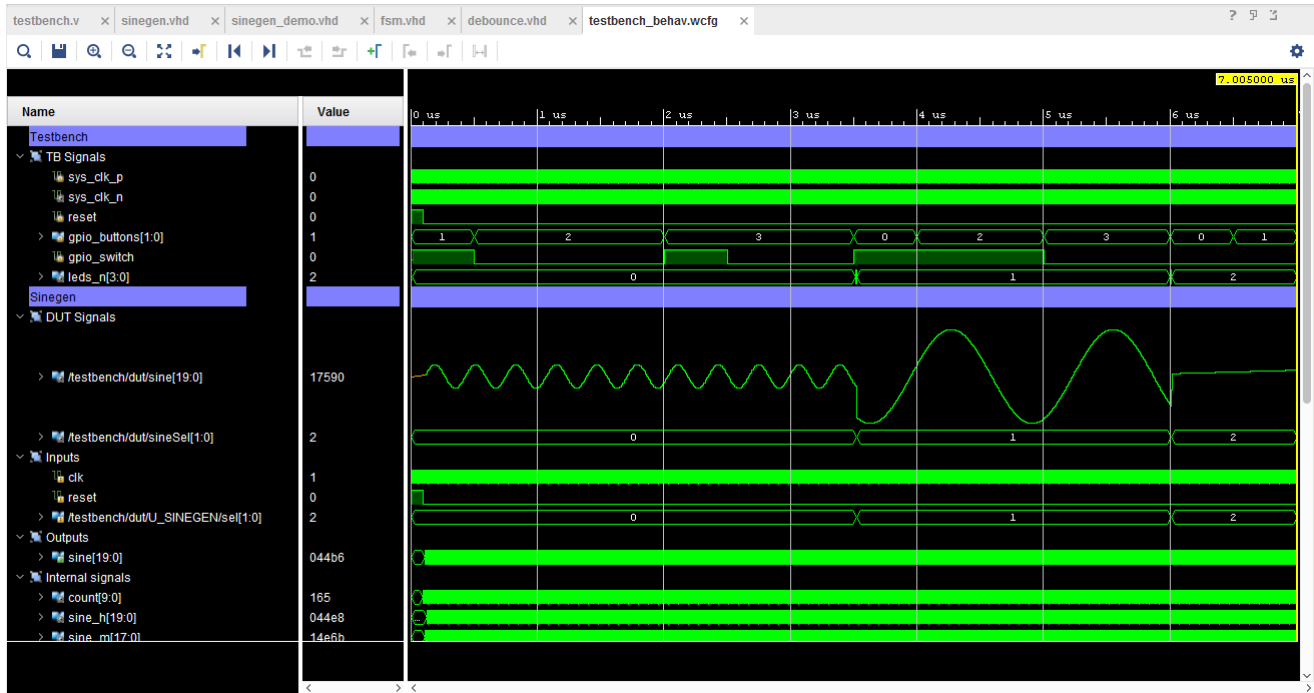

Figure 32: Corrected Low Frequency Output
3. Click the **Run All** button  (Figure 32) to run the simulation.